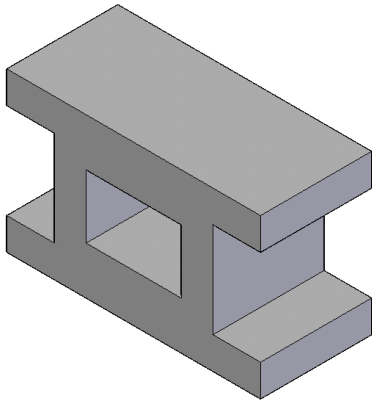
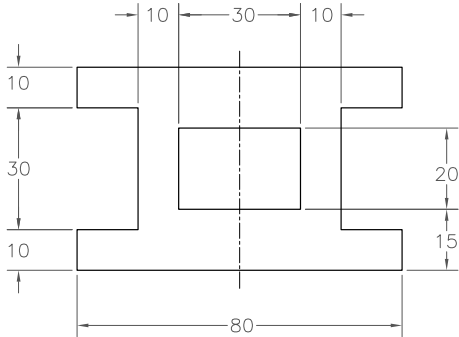

Figure 3-33 Model for Tutorial 1
Figure 3-34 Profile to be drawn for Tutorial 1
In this tutorial, you will draw the profile of the model shown in Figure 3-33. The profile shown in Figure 3-34 should be symmetric about the origin. You need not use the edit boxes available in the command bar to enter the values of the entities. Instead, you can use the parametric dimensions to complete the sketch. (Expected time: 30 min)
3. Click on the graphics window to create a rectangle. Refer to Figure 3-34 for the location of the rectangle.